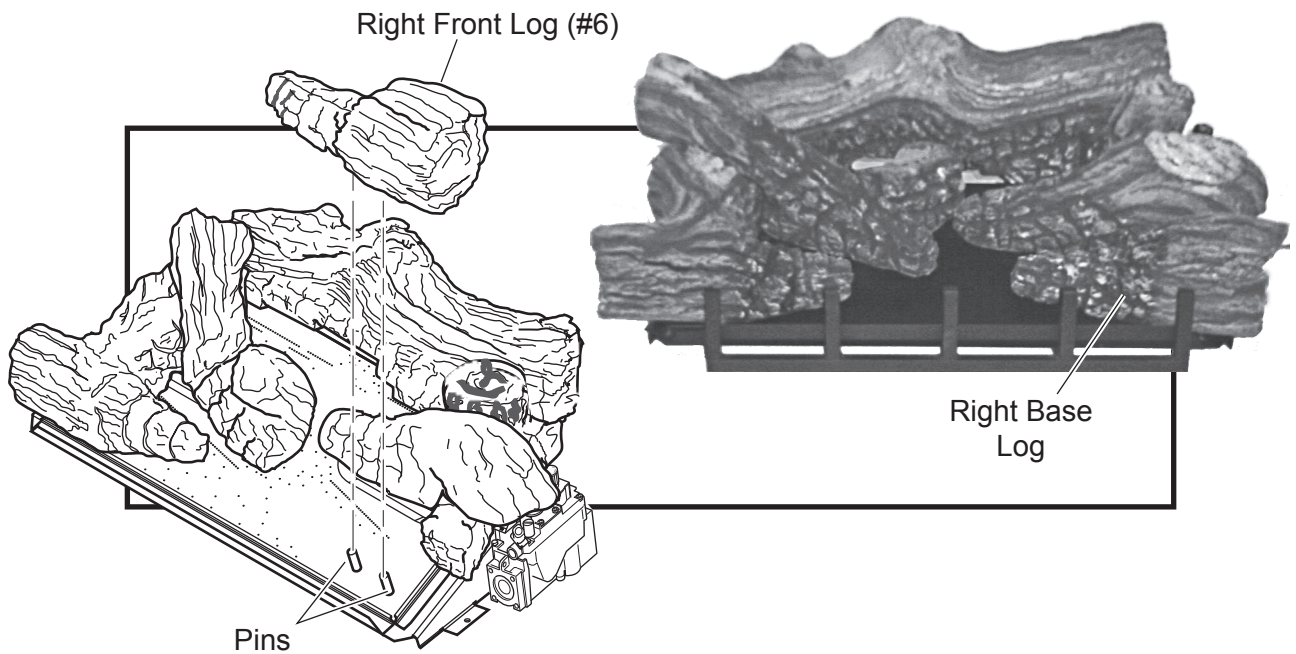

Figure 25 - Installing Right Front Log (#6)
6. Place right front log (#6) on two pins on the right front of grate. See Figure 25.